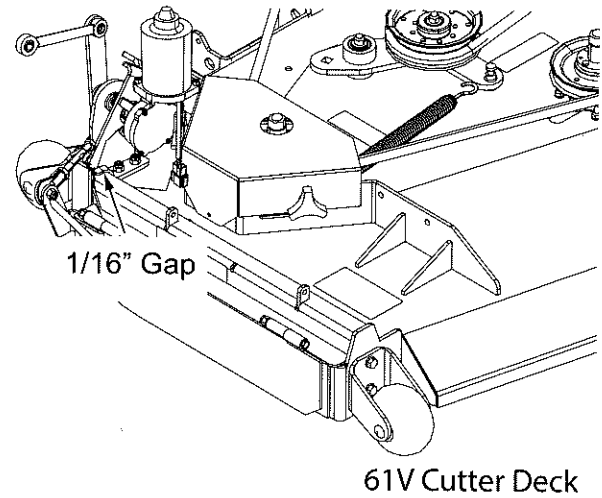

**Figure 3-13. Block Off Plate Weldment Installation**
19. Tighten the hardware installed in step 18 leaving a 1/16" gap between the E-OCDC pivot assembly and the discharge chute mounting rail on the cutter deck. See Figure 3-13.